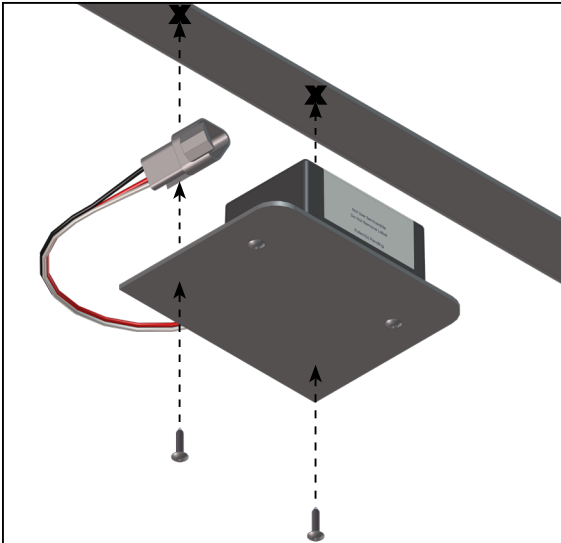

Fig.14
3. Attach the mounting plate and rear sensor assembly to the crossmember using two #12 x 1" hex head self-tapping screws. Ensure that the plate is centered side to side on the frame and that the sensor is oriented properly (**Fig.14**).